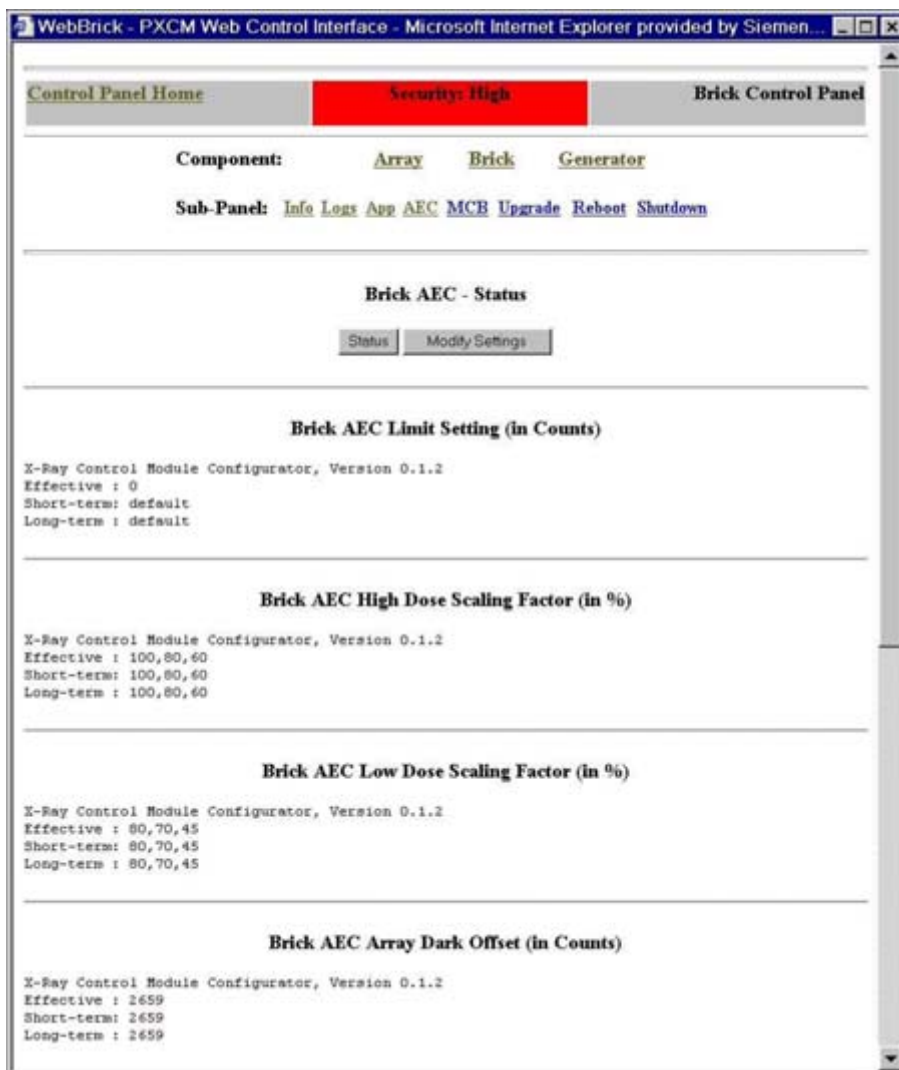

Fig. 7: BRICK status
2. To view the BRICK AEC configuration information, click the **Brick AEC Configuration** link on the BRICK Control Panel page or the **AEC** link on any of the other PXCМ pages. The **Brick AEC - Status** page is displayed, as shown in (Fig. 7 / p. 24).